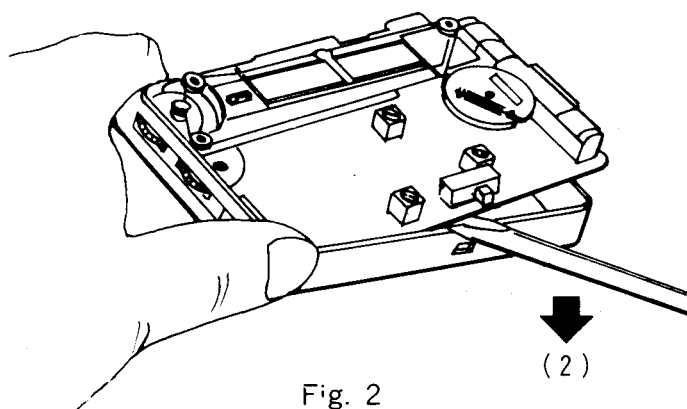

Fig. 2
1. Pull out the PC Board with driver, in the direction of arrow (2) as shown in (Fig. 2)